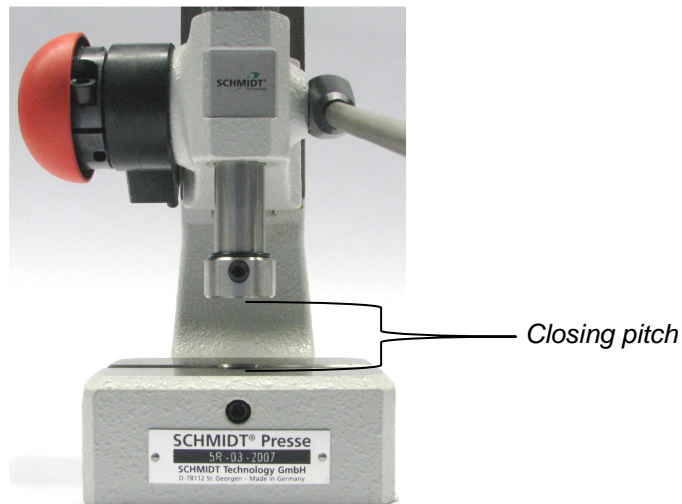

Figure 2
2. Now the closing pitch needs to be adjusted. When reaching the insertion depth the press should drive against a stop in order to prevent the connector from being "over-pressed" (see figure 2).